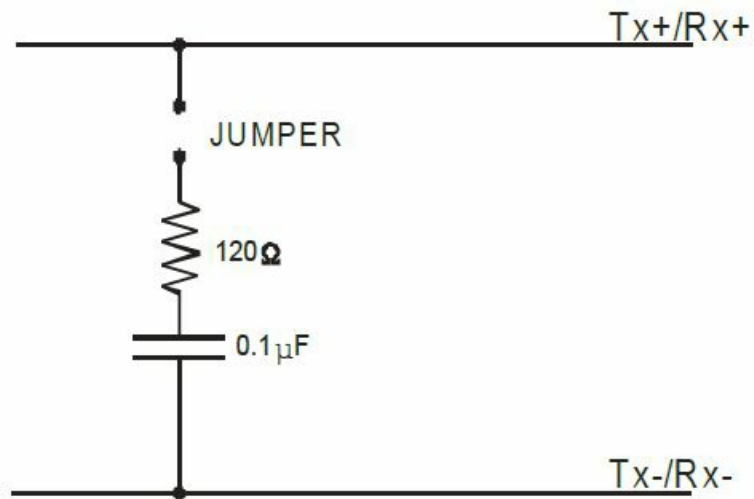

Figure 3-1: Simplified Termination Schematic
- To help you locate the jumpers described in this section, refer to the Figure 3-1, Option Selection Map on the next page. Operation is determined by jumper installation as described in the following paragraphs. 485 and 422 Mode Jumpers